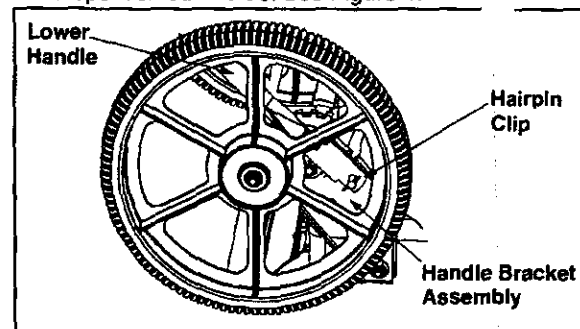

Figure 4
- Remove the hairpin clips from the outer hole in the weld pins on the handle bracket assemblies. Using a pair of pliers, squeeze one leg of the lower handle against the handle bracket assemblies. Insert the hairpin clip into the inner hole on the weld pin. Repeat on other side. See Figure 4.